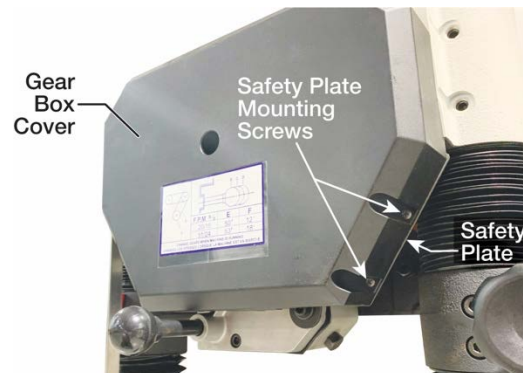
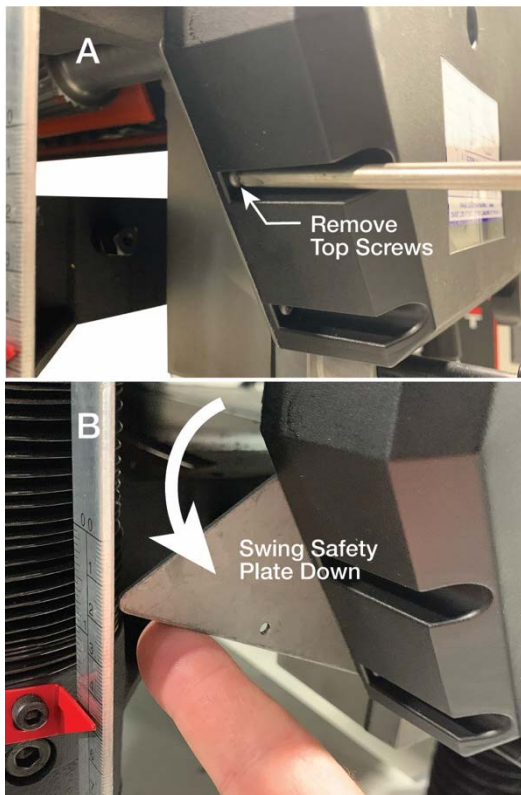

Figure 31
Figure 32
3. There are two safety plates attached to the rear of the gear box cover. These plates are on each side of the gear box cover and can't be seen when the cover is installed. The safety plates are held in place by mounting screws which are accessed from the front of the gear box cover (see Figure 31). Remove the top mounting screws on each safety plate (see Figure 32). Reach behind the gear box cover and swing both safety plates down (see Figure 32). You may need to slightly loosen the lower mounting screws to allow the safety plates to pivot. Also, when pivoting the right-side safety plate, it may contact the table locking knob. This problem will be taken care of in step 4.